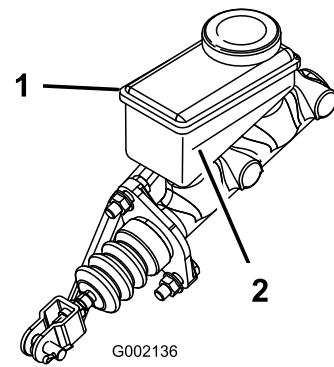

Figure 14
- Look at the outline of the fluid level at the side of the reservoir. (Figure 14).
- B. Add DOT 3 brake fluid to the reservoir until the fluid level is above the Minimum line (Figure 14).
5. Install the rubber plug in top of the dash (Figure 14).